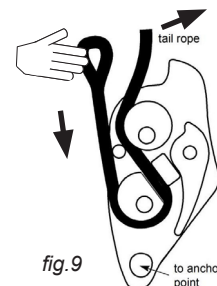

fig.9
**To ascend** - Quadra should be in reduced friction configuration - lift body weight by pulling on the anchor rope with left hand, while simultaneously pulling the tail rope up through Quadra with right hand (fig.9).